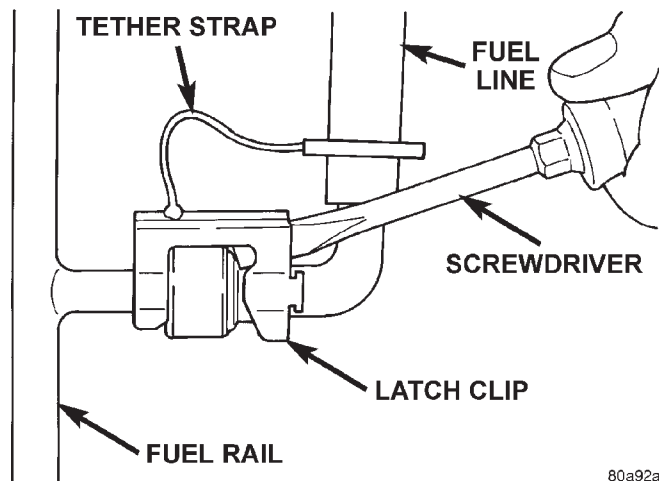
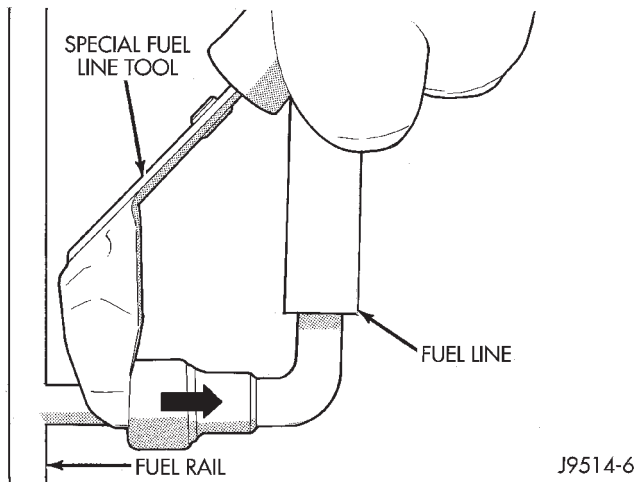

Fig. 20 Latch Clip Removal
Fig. 21 Fuel Line Disconnection
A tethered latch clip (Fig. 20) is used to secure the fuel line to the fuel rail. A special tool will be necessary to separate fuel line from fuel rail after latch clip is removed. This same latch clip may also be used to secure other different fuel system components.
- (1) Perform fuel pressure release procedure. Refer to Fuel Pressure Release Procedure in this group.
- (2) Disconnect negative battery cable from battery.
- (3) Clean fitting of any foreign material before disassembly.
- (4) Pry up on latch clip with a screwdriver (Fig. 20).
- (5) Slide latch clip toward fuel rail while lifting with screwdriver.
- (6) Insert special fuel line removal tool (Snap-On number FIH 9055-1 or equivalent) into fuel line (Fig. 21). Use this tool to release locking fingers in end of line.
- (7) With special tool still inserted, pull fuel line from fuel rail.
- (8) After disconnection, locking fingers will remain within quick-connect fitting at end of fuel line.
- (9) Prior to connecting fuel line to fuel rail, check condition of both fittings. Clean parts with a lint-free cloth. Lubricate with clean engine oil.
- (10) Insert fuel line onto fuel rail until a click is felt.
- (11) Install latch clip (snaps into position). **If latch clip will not fit, this indicates fuel line is not**